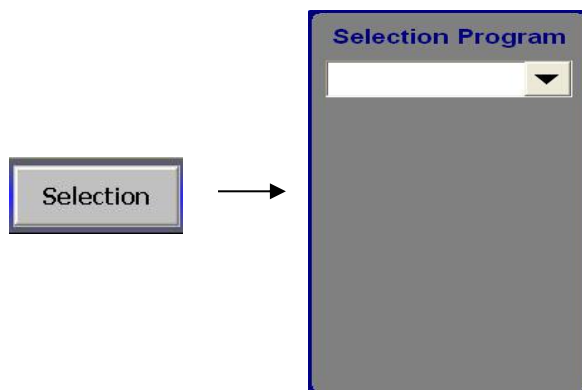

Fig 5
- ⊙ Press “Selection” button to open the window as Fig 5.